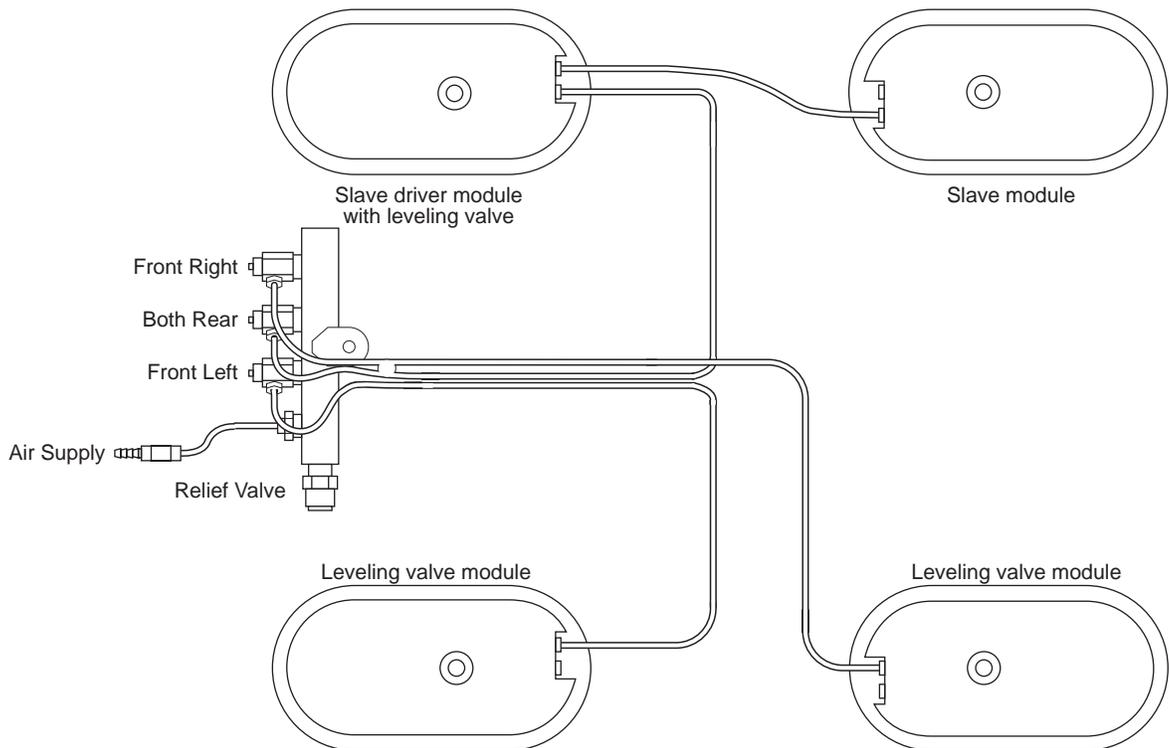

Figure 4 — Air line connections (Top view of isolator modules)
- a. Interconnect the modules and the air distribution manifold using the  $\frac{1}{4}$  in. tubing as shown in Figure 4. The slave modules are daisy chained to the modules with leveling valves as shown in Figure 4.